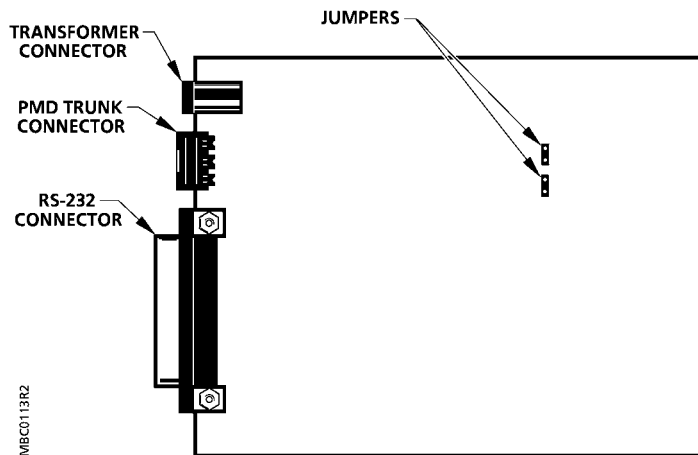

Figure 2. Trunk Interface II Jumper Locations.
2. To change to an RCU or RPU P1 trunk application, install jumpers one and two so that they short their respective pins. The jumpers are factory installed in a non-shorting position. See Figure 2 for the location of the jumpers.